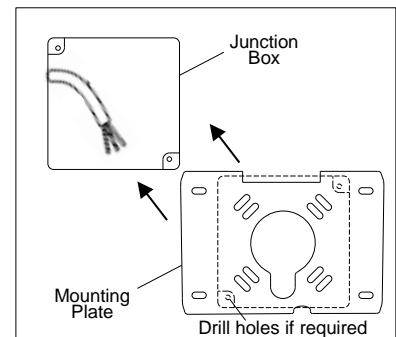

Figure 3
3. Position the mounting plate over the existing junction box, and attach the mounting plate to the junction box. If the mounting plate holes are not aligned with the junction box holes, drill additional holes in the mounting plate (see Figure 3).